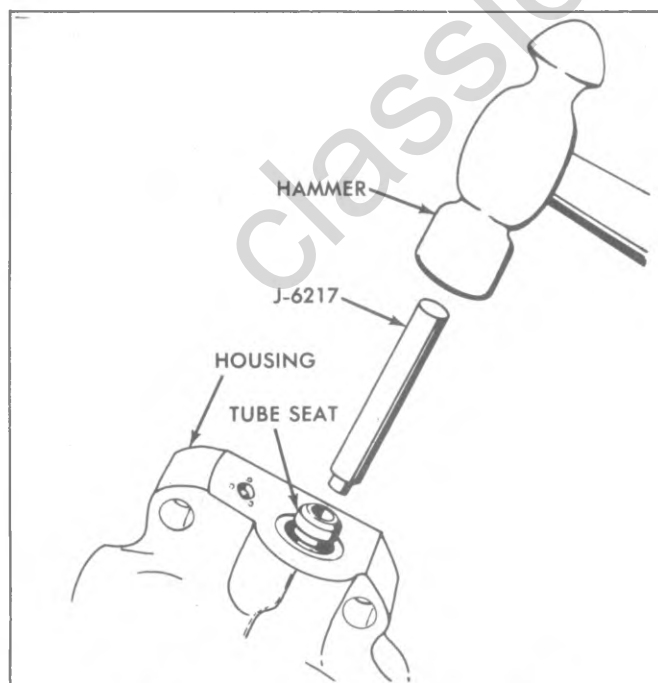

Fig. 5-61—Installing Tube Seat Using J-6217
6. Install tube seat with Tool J-6217 as shown in Figure 5-61.